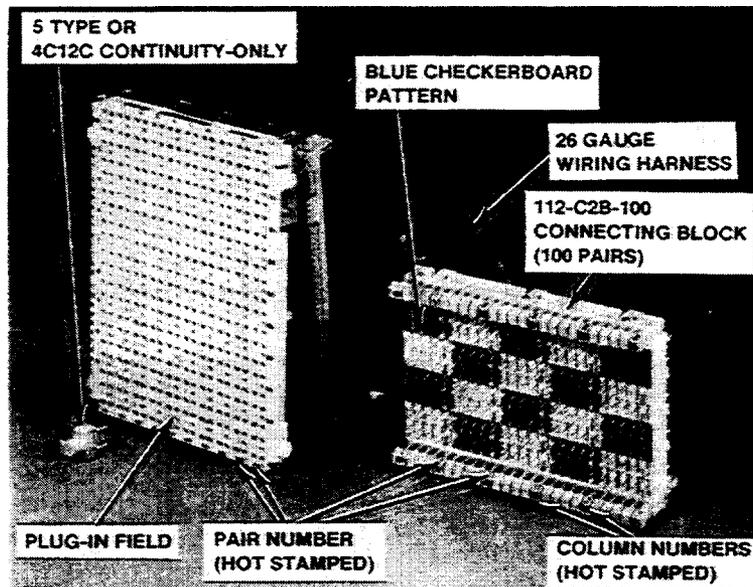

Figure 2. 407D1-100 Connector — Front View
2.03 The 407D1-100 unprotected connector (Figures 2 and 3) has a plug-in unit panel interconnected to one 100-pair 112C1B-100